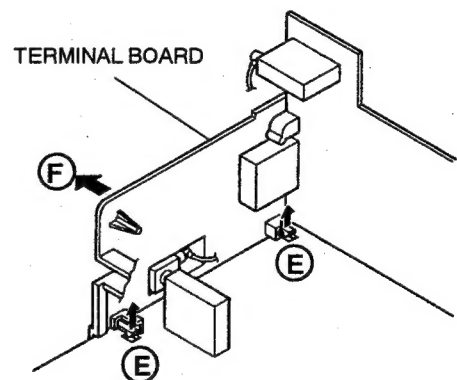
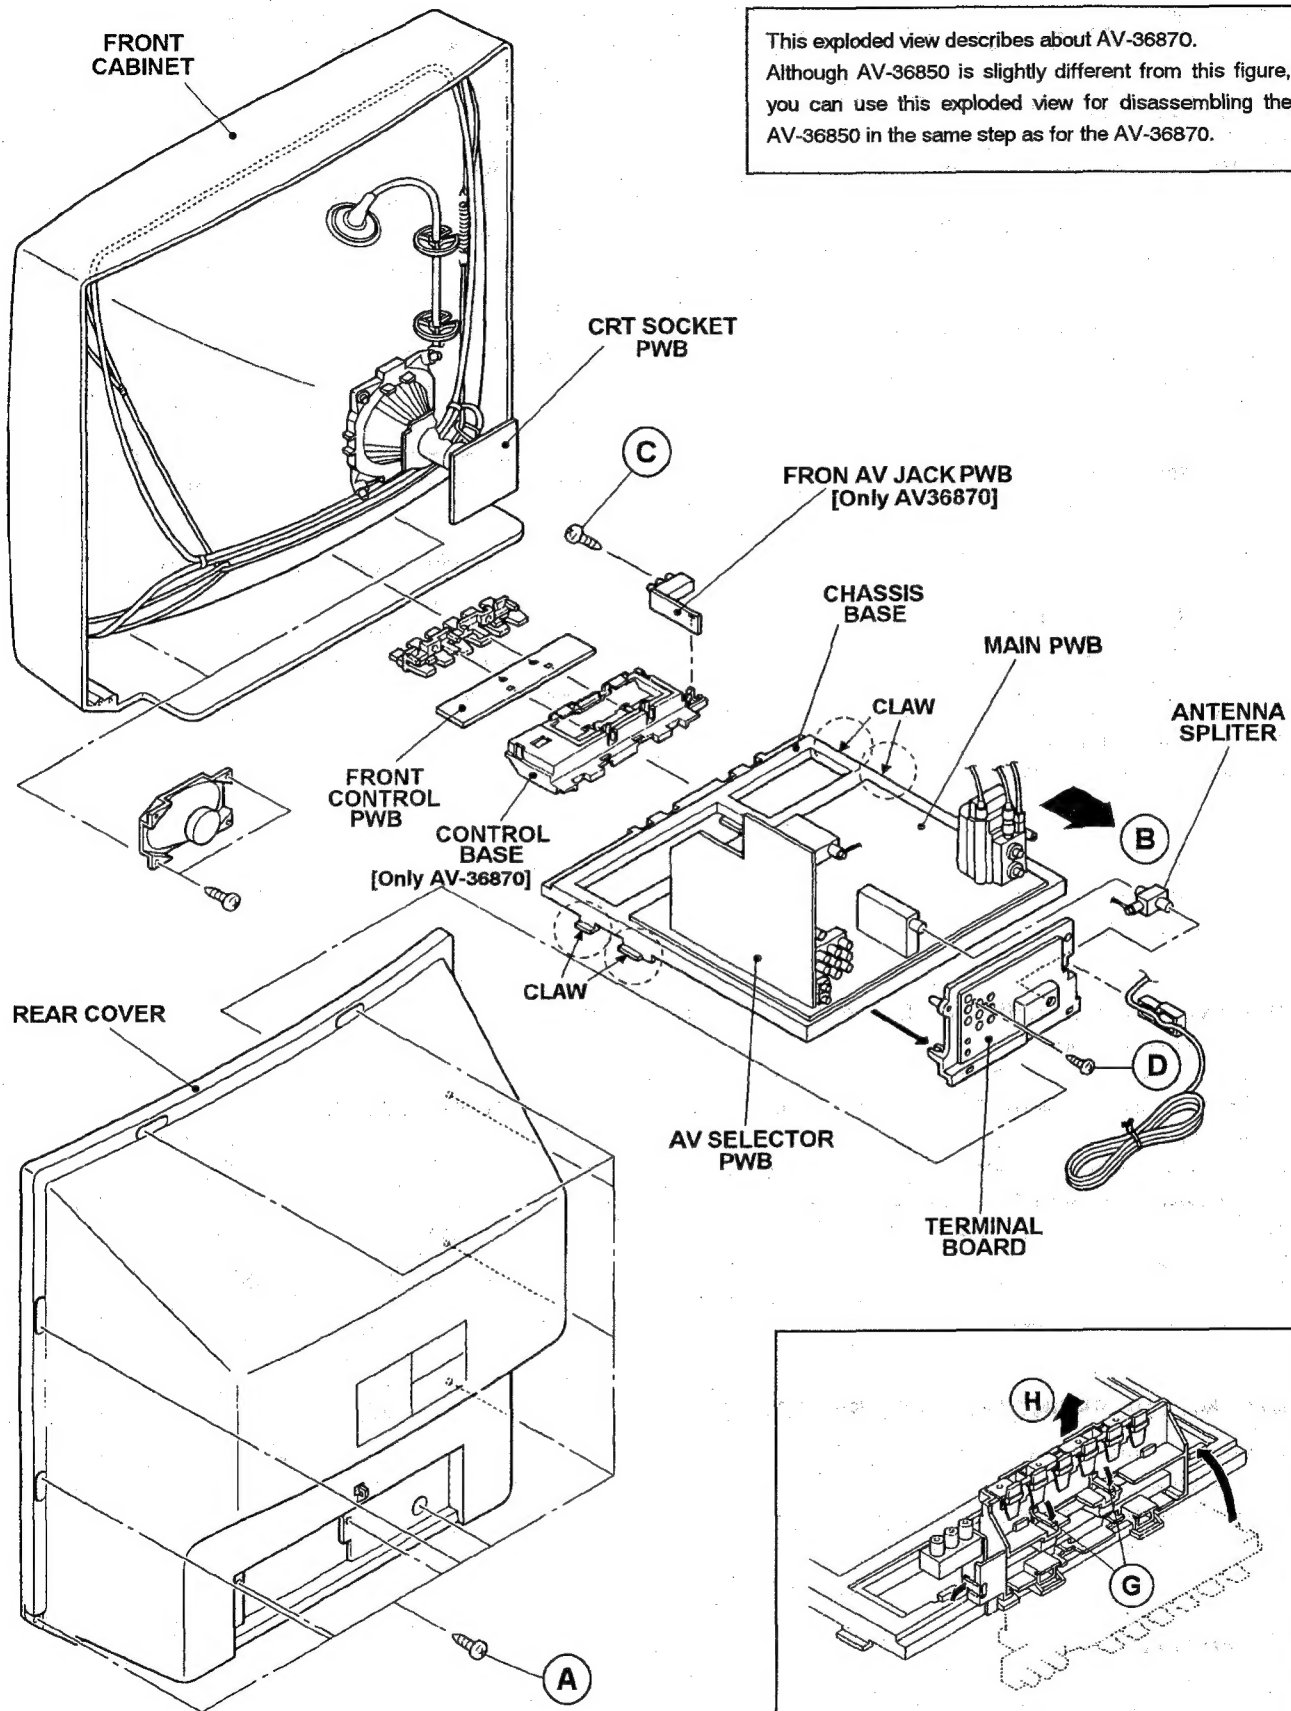

Fig. 1
Fig. 2
2. Remove the 11 screws marked **A** as shown in Fig.2.
Remove the screw marked **C** as shown in Fig.2.
2. Draw the chassis backward along the rail in the arrow direction marked **B** as shown in the Fig.2.
1. Remove the 2 screws marked **D** as shown in Fig.2.
2. After removing the claw marked **E** in the direction of arrow mark as shown in Fig.1.
3. When you pull out the AV TERMINAL BOARD in the direction of arrow marked **F** as shown in Fig.1, it can be removed.
(1) Power off Switch off the power and disconnect the power cord from the outlet.
(2) Replace the memory IC. Be sure to use memory ICs written with the initial data values.
(3) Power on Connect the power cord to the outlet and switch on the power.
(4) System constant check and setting <ol style="list-style-type: none"> [AV-36870 : RM-C885] Simultaneously press the DISPLAY key and VIDEO STATUS key of the remote control unit. [AV-36850 : RM-C745] Simultaneously press the OSD key and STATUS key of the remote control unit. [AV-36850 : RM-C745] The SERVICE MENU screen of Fig.1 is displayed. While the SERVICE MENU is displayed, again simultaneously press the DISPLAY (OSD) and VIDEO STATUS (STATUS) keys to display the Fig.2 SYSTEM CONSTANT screen. Refer to the SYSTEM CONSTANT table and check the setting items. Where these differ, select the setting item with the MENU UP / DOWN key and adjust the setting with the MENU LEFT / RIGHT keys. (The letters of the selected item are displayed in yellow.) After adjusting, release the MENU LEFT / RIGHT key to store the setting value. Press the EXIT key twice to return the normal screen. 	 <p>Fig.1</p>
(5) Receive channel setting Refer to the OPERATING INSTRUCTIONS (USER' S GUIDE) and set the receive channels (Channels Preset) as described.
(6) User settings Check the user setting items according to Table 2. Where these do not agree, refer to the OPERATING INSTRUCTIONS (USER' S GUIDE) and set the items as described.
(7) SERVICE MENU setting Verify what to set in the SERVICE MENU, and set whatever is necessary. (Fig.1) refer to the SERVICE ADJUSTMENT for setting.	 <p>Fig.2</p>